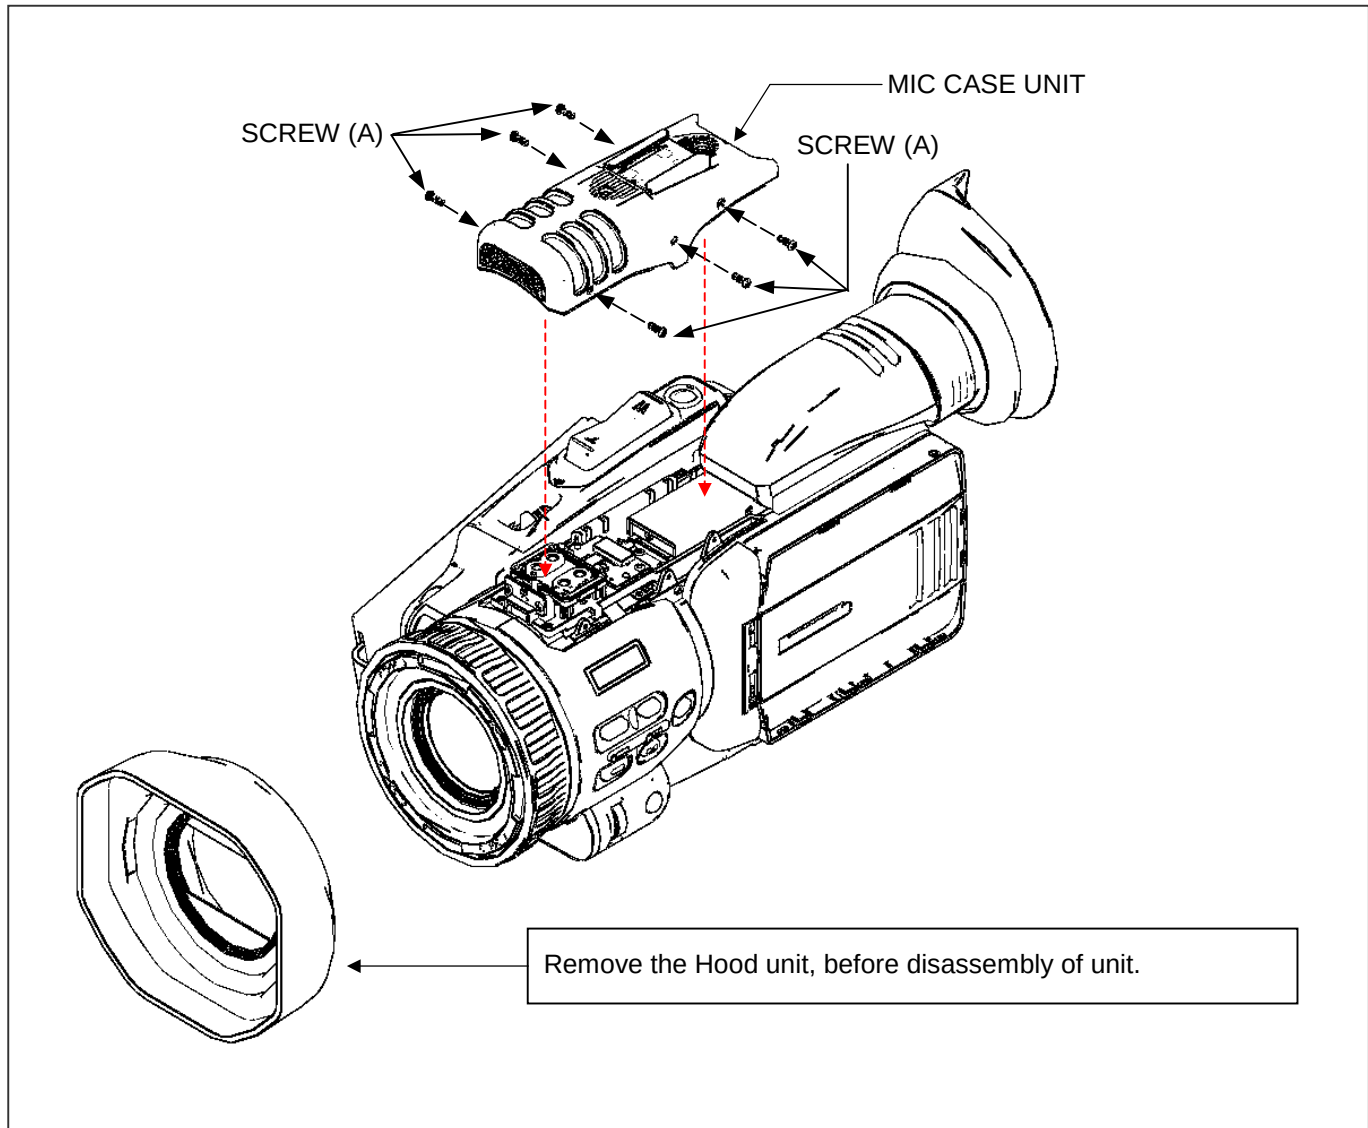

Figure 3-1
1. Unscrew the 6 screws (A) and remove the MIC Case Unit as shown in figure 3-1.